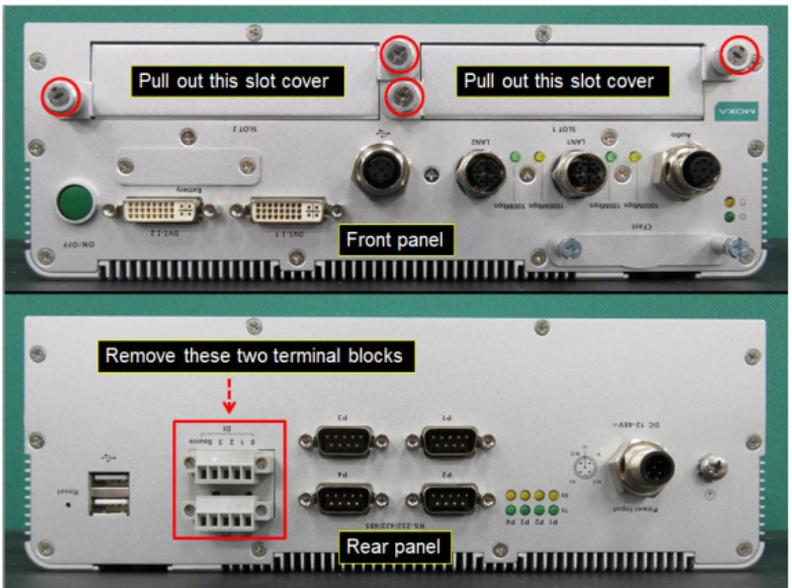

Figure 2
4.1.2 Use a Phillips screwdriver (item 1 in Table 2) to loosen the four (4) screws on the front panel and then pull out two expansion slot covers. Remove the two terminal blocks on the rear panel as shown in Figure 2.